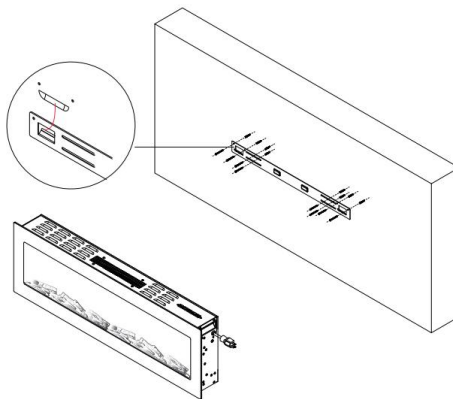

Fig 5
E. Mark out location, then mount the bracket(s) onto the wall using the 6x30mm screws provided. **This bracket MUST have the hooks facing upward and be level.** See Fig 5